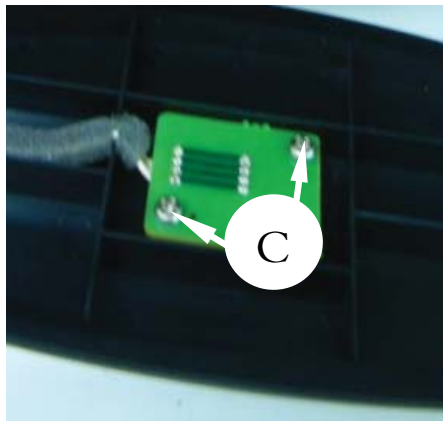

Figure5
- 1) Loosen 2 screw "C" as shown in figure5 to detach Download Board